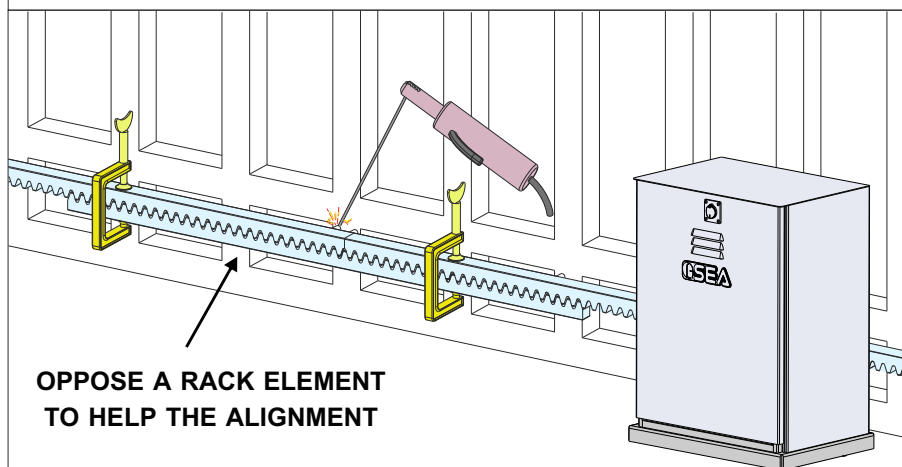

Fig. 11
6.5. Make sure that all the rack elements are perfectly aligned and correctly placed (**THE TEETH MUST BE IN PHASE**). It is suggested to oppose an element to two consecutive elements to ensure the perfect alignment as shown in Fig. 11;